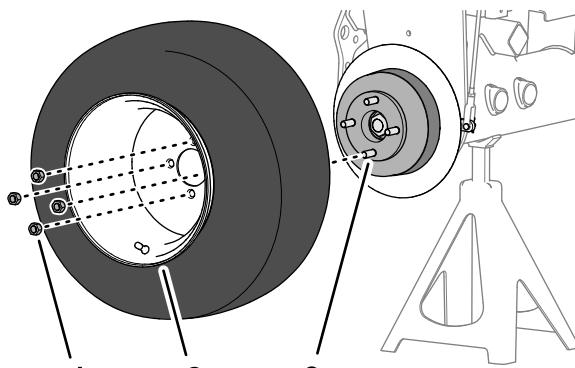

Figure 63
1. Remove the 4 lug nuts that secure the front wheel to the hub, and remove the wheel (Figure 63).